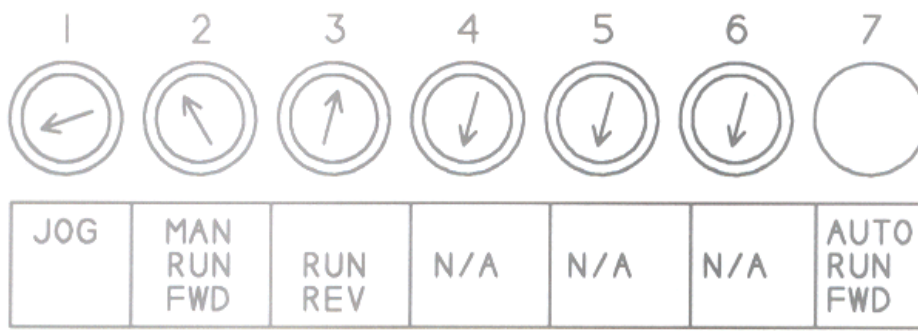

Figure A6
7) After programming is completed, label the potentiometers on the Preset Speeds option board to clearly indicate the function of each channel. Figure A6 illustrates typical labeling. Print or type the function names on 3/8" x 1 1/4" self-adhesive labels. Use Avery S620 labels, available in office supply stores.